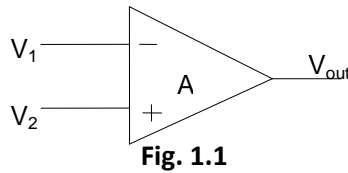

Fig. 1.1
1. In fig 1.1 an op.amp contains two inputs and a single output. The inputs are named as inverting input marked with a negative or “minus” sign, (-) and non-inverting input marked with a positive or “plus” sign (+).